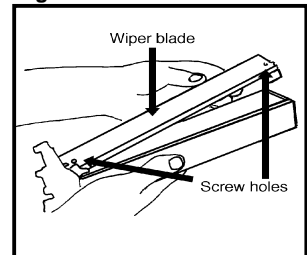

Figure 6
- Remove the cleaning blade (2 screws - Fig. 6).